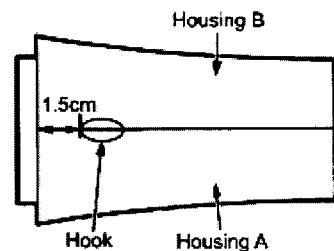

Fig.3
- (1) Assemble the housing A and B by snapping the hook as shown in Fig.3.
- (2) Assemble the air outlet grill and air outlet ring, and insert them into the housing AB.
- (3) Insert the air inlet block into the housing AB.